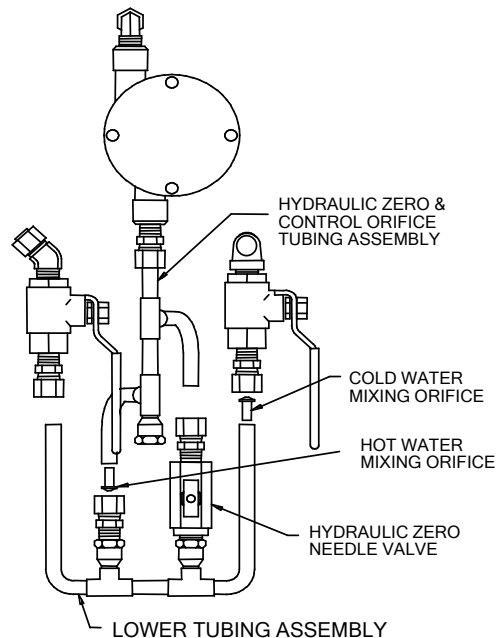

Figure 6.5
10. Carefully remove the lower tubing assembly taking care not to lose either the cold water or hot water mixing orifice, (See Fig. 6.5).
17. Inspect the mixing orifice for blockage or degradation due to erosion, (See Fig. 6.5). Clean or replace as necessary.
Do not attempt to adjust the Hydraulic Zero Needle Valve. This is a factory-preset item. Refer to **Figure 6.5**. If setting has been tampered with or BTU transmitter is being replaced, see procedure in **Section 6.12**, page 6-17.